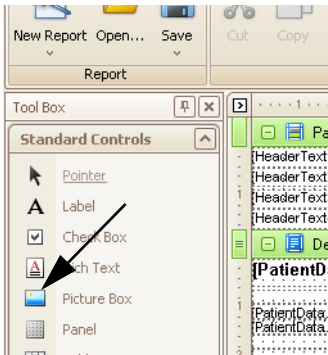

Fig. 12-4: Picture Box button
- Select the **Picture Box** (Fig. 12-4:).